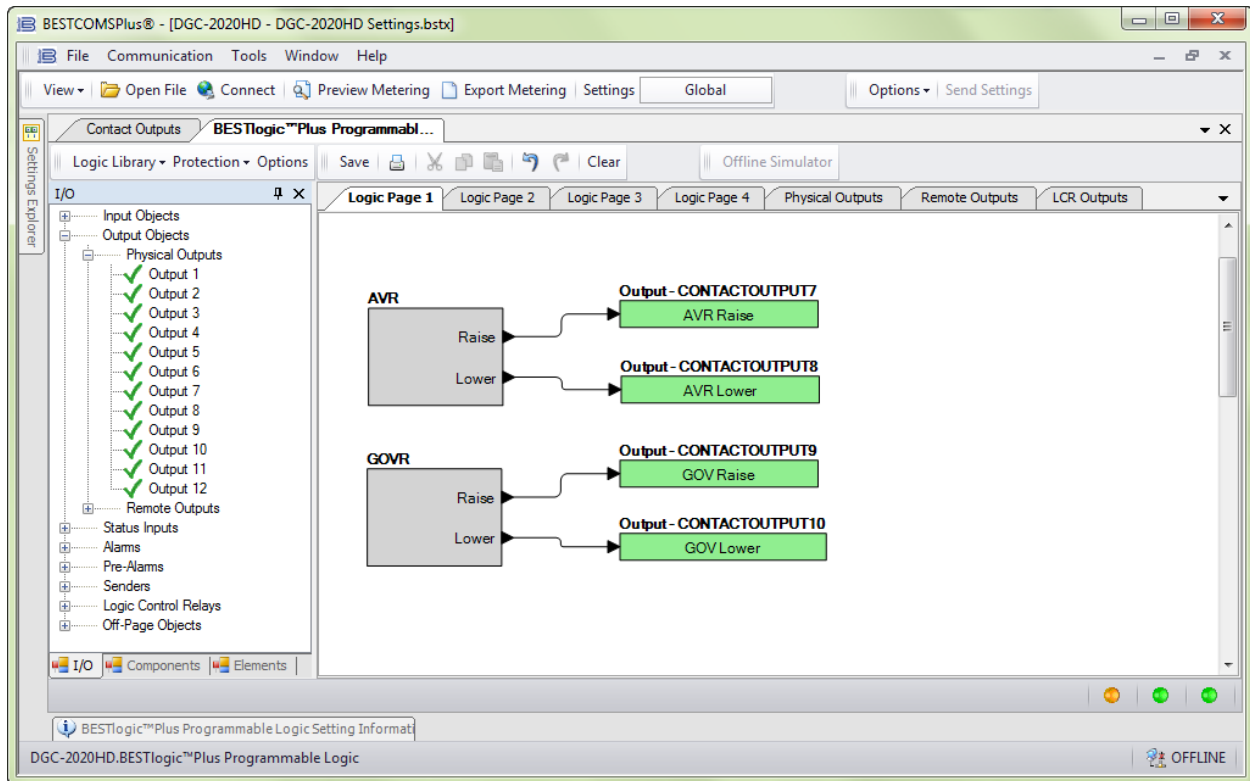

Figure 127. Contact Output Bias Control Setup, Step 4.
4. Click on the I/O tab and drag the outputs assigned in step 1 into the main logic screen and connect them to the appropriate outputs of the AVR and GOVR blocks. See Figure 127.